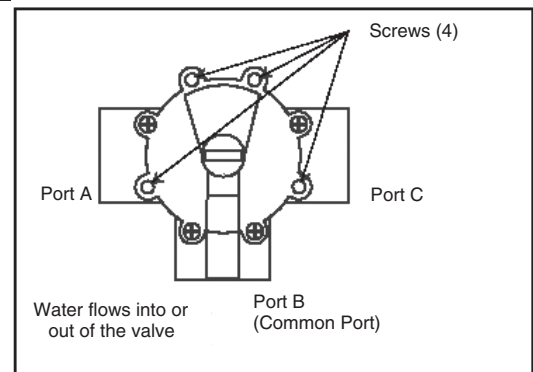

Figure 1. Standard Plumbing
2. With a Phillips screwdriver, remove the four screws from the valve body as shown in Figure 1.
**Standard Plumbing** - A three-port valve is the port B (middle) being the incoming (common) port and A and C ports are the outlet ports (see Figure 1).